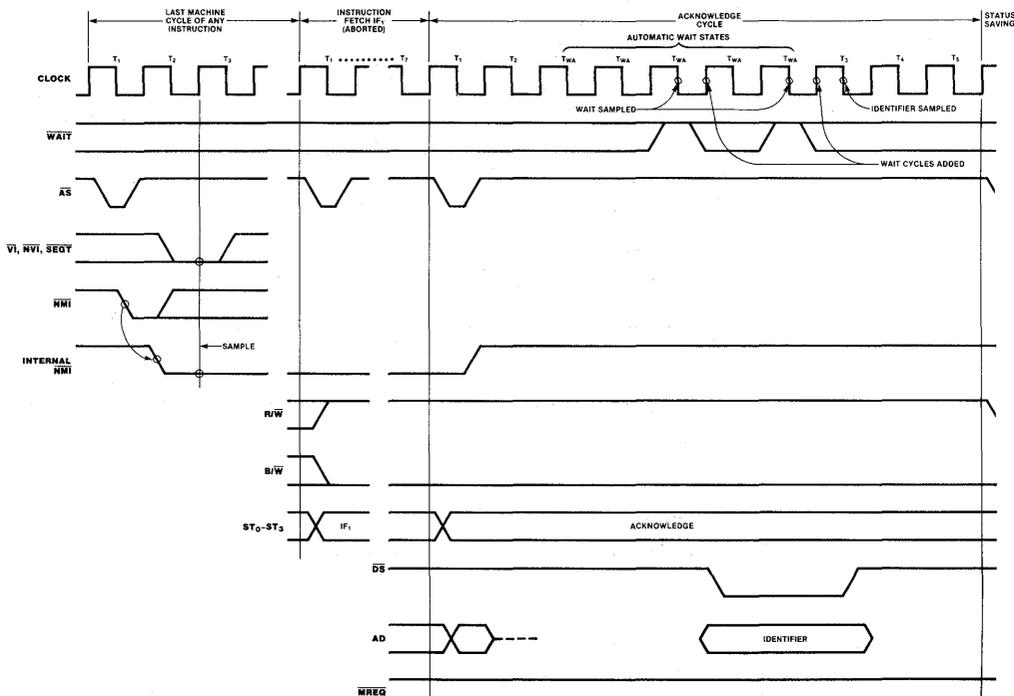

Figure 9-6. Interrupt and Segment Trap Request and Acknowledge Transition.
These transactions are eight clock cycles long at a minimum (as shown in Figure 9.6), having five automatic WAIT cycles. The WAIT cycles are used to give the interrupt priority daisy chain (or other priority resolution device) time to settle before the identifier word is read. (Consult the *Z-Bus Summary* for more information on the operation of the priority daisy-chain.)
As shown in Figure 9.6, there are two places where WAIT is sampled and thus a WAIT cycle may be inserted. The first serves to delay the falling edge of DS to allow the daisy chain a longer time to settle, and the second serves to delay the point at which data is read.
9.6.1 Interrupt/Trap Request. The Z8000 CPU supports three interrupts and one external trap (segment trap) as shown in Figure 9.6. The Interrupt Request line (\overline{INT}) of a device that is capable of generating an interrupt may be tied to any of the three Z8000 interrupt pins (\overline{NMI} , \overline{NVI} , \overline{VI}). Several devices can be connected to one pin, the devices arranged in a priority daisy chain (see the *Z-Bus Summary*). The segment trap pin (\overline{SEGT}) is activated by the memory management hardware. The CPU uses the same protocol for handling requests on any of these pins. Here is the sequence of events that is followed: